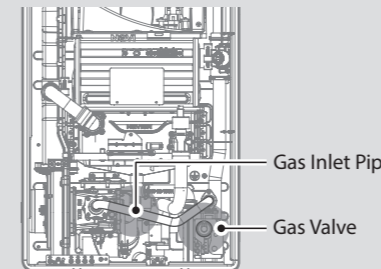

Figure 2. NHB-H Series Internal Components
4. With the internal components exposed, locate the gas inlet pipe and the gas valve, as shown in Figure 2.